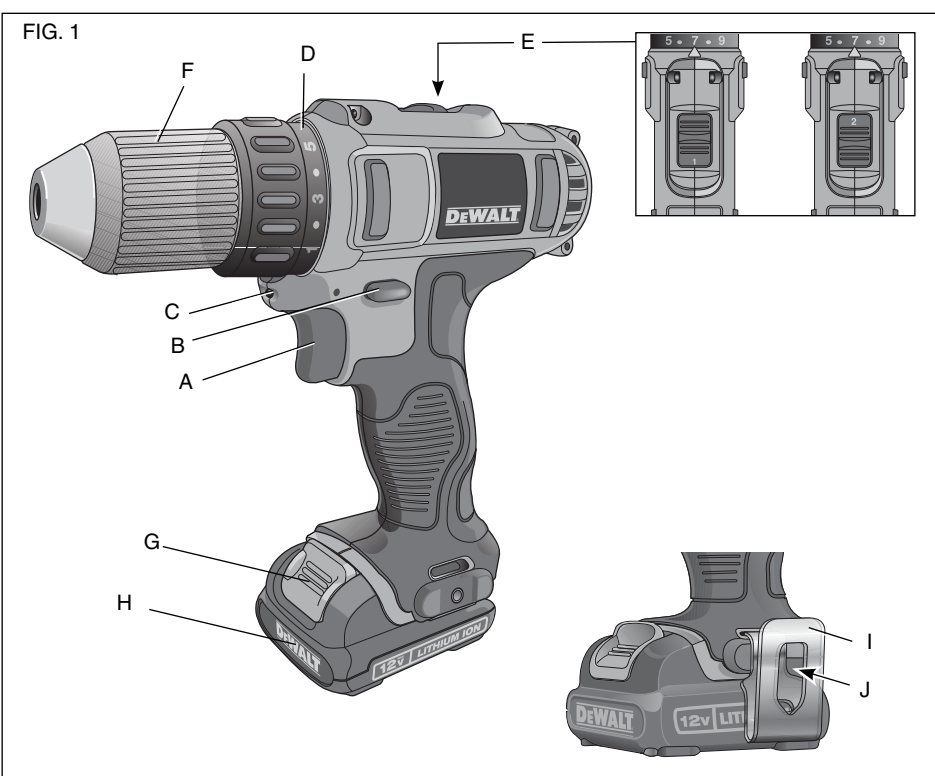

FIG. 2
Charging Procedure (Fig. 2)
2. Insert the battery pack (H) into the charger, as shown in Figure 2, making sure the pack is fully seated in charger. The red (charging) light will blink continuously indicating that the charging process has started.